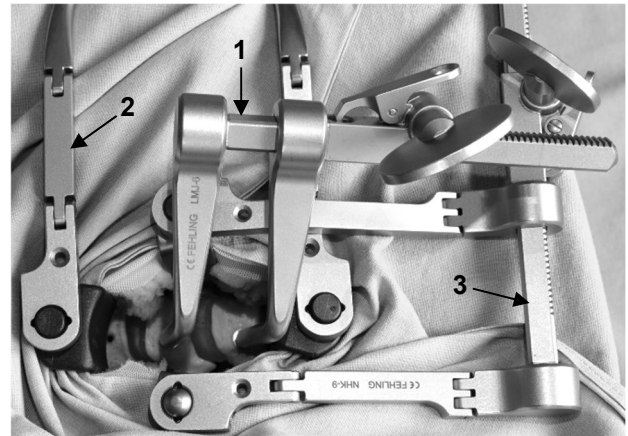

Fig. 2: Configuration example for the CASPAR distractor
Figure 2 depicts a configuration example for the CASPAR distractor (1) in combination with a longitudinally (2) and transversely (3) aligned ATLAS cervical spine retractor in each case. Table 1 lists the corresponding components.